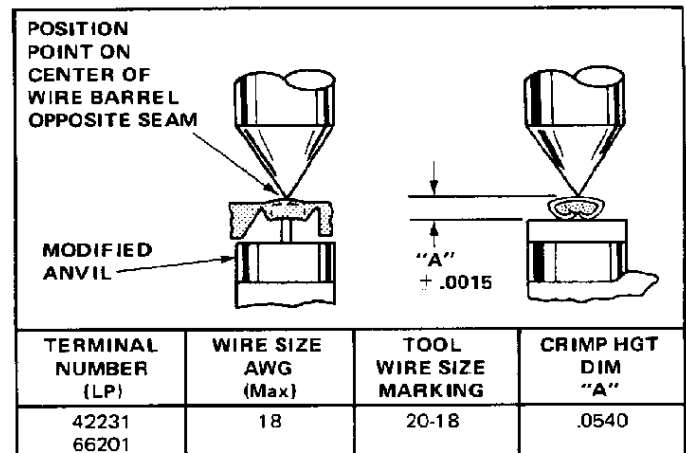

Fig. II-2
This inspection incorporates the use of a micrometer with a modified anvil as shown in Figure II-2. We recommend the modified micrometer (Crimp Height Comparator RS-1019-5L) which can be purchased from:
1. Refer to the chart in Figure II-2, and select a terminal and a wire (maximum size) for the tool.
3. Using a crimp height comparator, measure the wire barrel crimp height as shown in Figure II-2. If the crimp height conforms to that shown in the chart the tool is considered dimensionally correct. If not, return the tool to AMP for evaluation and repair (see Paragraph II-3). For additional information concerning the use of the crimp height comparator, refer to AMP Instruction Sheet IS 7424.
1. Select a terminal and a wire (maximum size) for the tool (see Figure II-2).